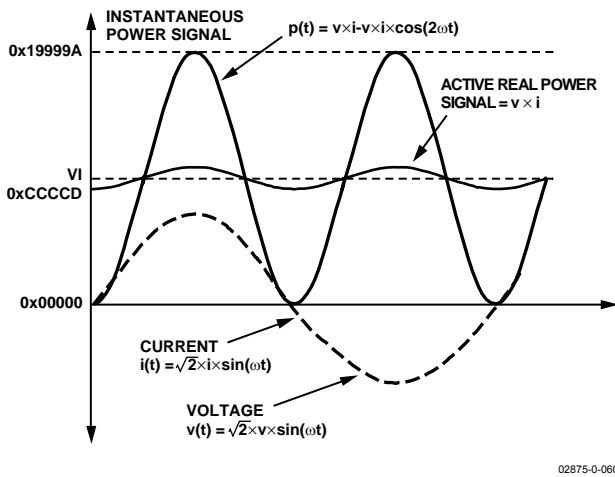

Figure 37. Active Power Calculation
Note that the active power is equal to the dc component of the instantaneous power signal  $p(t)$  in Equation 9, i.e.,  $VI$ . This is the relationship used to calculate active power in the ADE7169F16. The instantaneous power signal  $p(t)$  is generated by multiplying the current and voltage signals. The dc component of the instantaneous power signal is then extracted by LPF2 (low-pass filter) to obtain the active power information. This process is illustrated in Figure 37.
The ADE7169F16 also incorporates an active power offset register (WATTOS[15:0]). This is a signed twos complement 16-bit register that can be used to remove offsets in the active power calculation—see Figure 37. An offset could exist in the power calculation due to crosstalk between channels on the PCB or in the IC itself. The offset calibration allows the contents of the active power register to be maintained at 0 when no power is being consumed.
As mentioned in the last section, the discrete time sample period (T) for the accumulation register is 1.22 μs (5/CLKIN). With full-scale sinusoidal signals on the analog inputs and the WGAIN register set to 0x000, the average word value from each LPF2 is 0xCCCCD—see Figure 37. The maximum positive value that can be stored in the internal 49-bit register is 248 or 0xFFFF,FFFF,FFFF before it overflows. The integration time under these conditions with WDIV = 0 is calculated as follows: